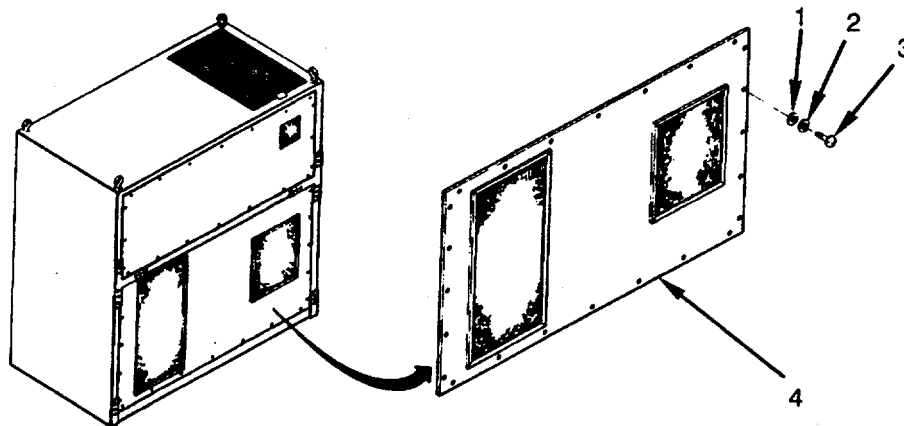

Figure 4-11. Rear Condenser Panel Removal
- i. Remove Rear Condenser Panel. Remove 42 screws (3), lockwashers (2), flat washers (1), and remove panel (4) (see Figure 4-11).